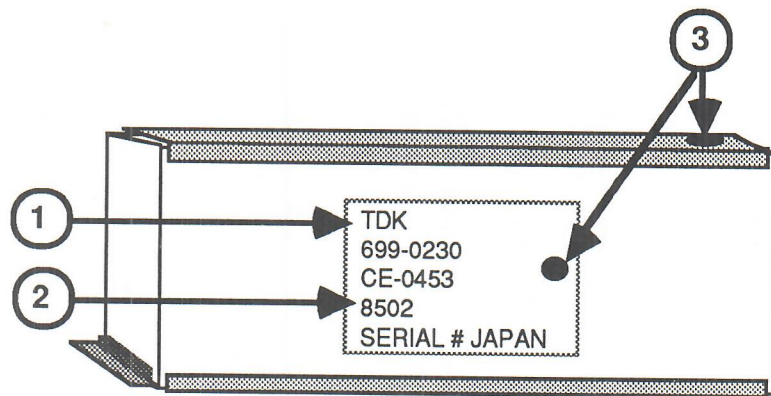

FIGURE 10
1. The marking "TDK" (Figure 10, #1).
2. A date code between 8501 and 8526 (Figure 10, #2).
Note: Black ink markings in either place indicated in Figure 10, #3, designates a reworked power supply that has had the problem corrected. These power supplies do not need to be exchanged.